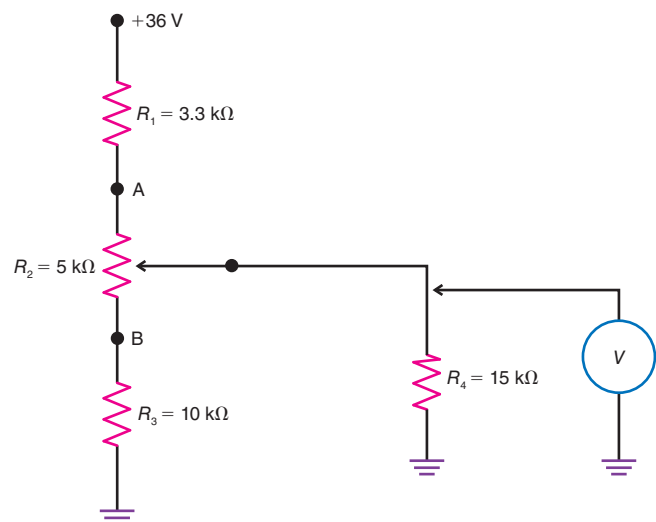

Figure 13-18
- 13.16** Refer to Fig. 13-18. How much voltage will be indicated by the voltmeter when the wiper arm of the linear potentiometer R_2 is set (a) to point A; (b) to point B; (c) midway between points A and B.